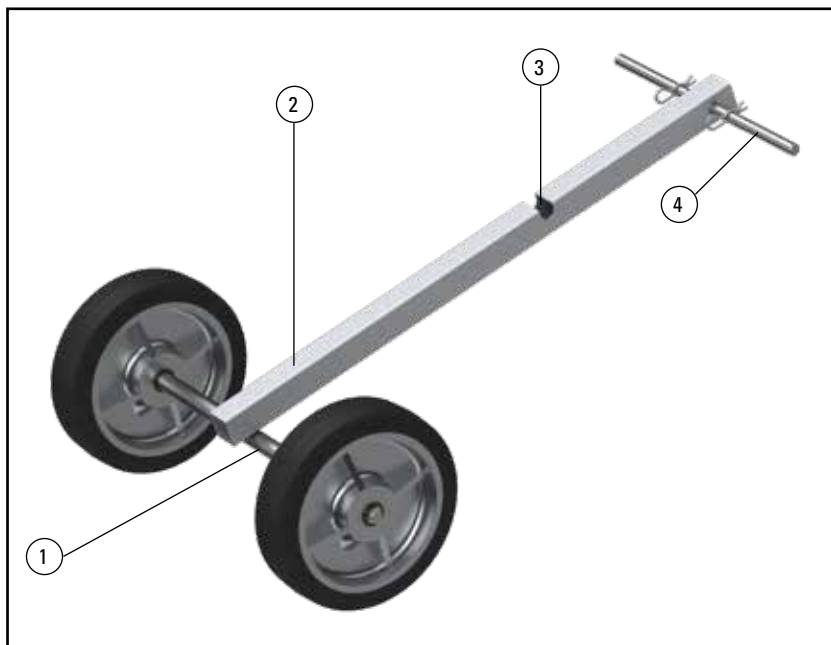

Fig. 18 Empty transport carriage (optional)
Remove the handlebar from the tube of the wheel frame (see Figure 18). To do this, remove one of the cotter pins and pull the handlebar out of the tube.
- 5 Insert the handlebar of the transport carriage into the intended hole the tube on the wheel frame, and secure it with the cotter pin (see Figure 18, Pos. 4)